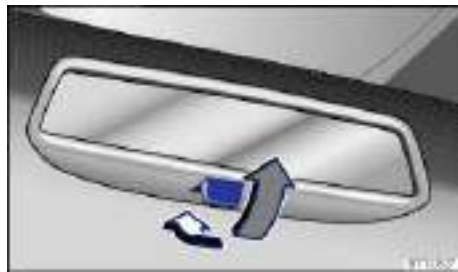

Fig. 87 Manually adjustable inside mirror.
- To adjust to non-glare visibility, move the lever so that it points backward ⇒ fig. 87.